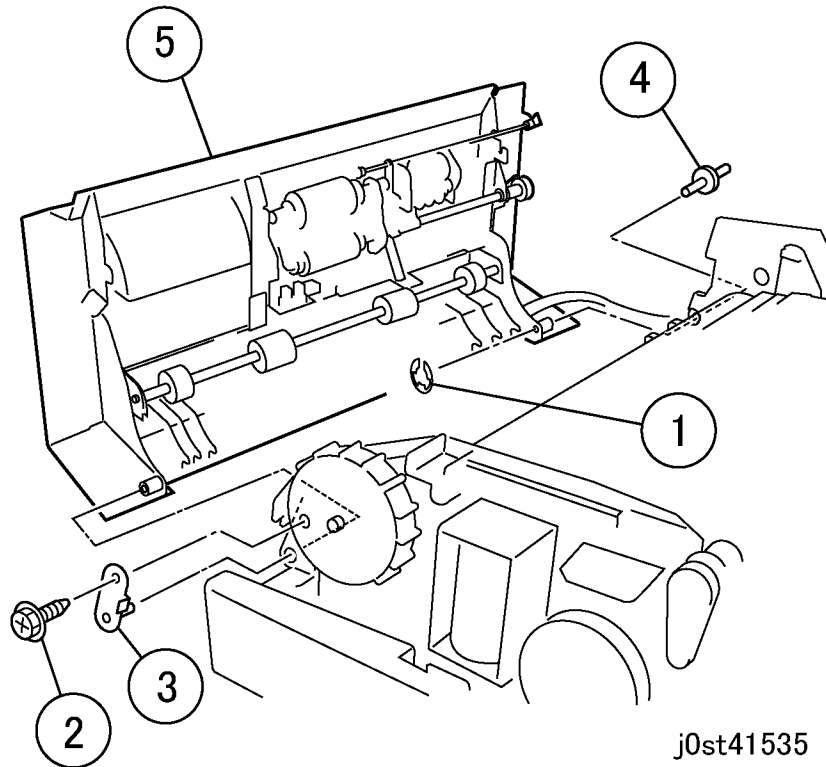

Figure 4 Removing the Top Cover Assembly (j0st41535)
6. Remove the Top Cover with the Wire Harness connected. (Figure 4)